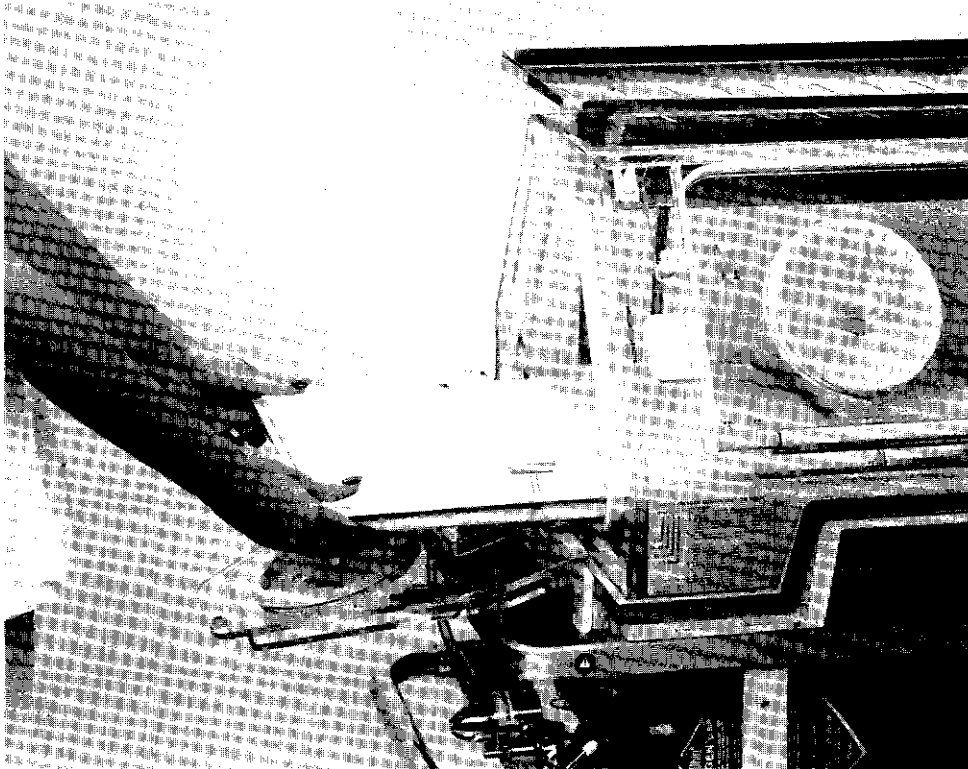

FIGURE 2.9 MATTRESS TRAY OPERATION
4. CHECK MATTRESS TRAY. Open the Head End Access Door. Slide the tray out of the Incubator until it reaches its mechanical stop (Figure 2.9). Check that the tray is stable when force is applied to the extended portion. Return the mattress tray to the Incubator. Check that the restraining straps are in good working order. Close the access door.